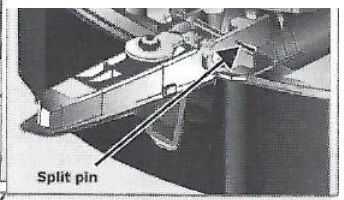

FIGURE 8
- Make sure split pin goes all the way through as shown Fig 8